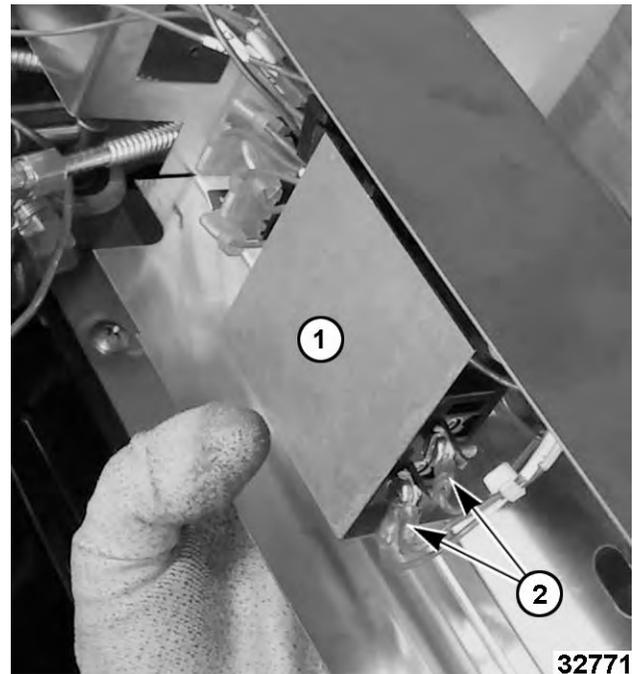

Fig. 32
4. Remove electrical cover (1, Fig. 32). Note and disconnect temperature control electrical connectors (2, Fig. 32).
NOTE: Shield (1, Fig. 32) is installed on previous production units, not on current production.